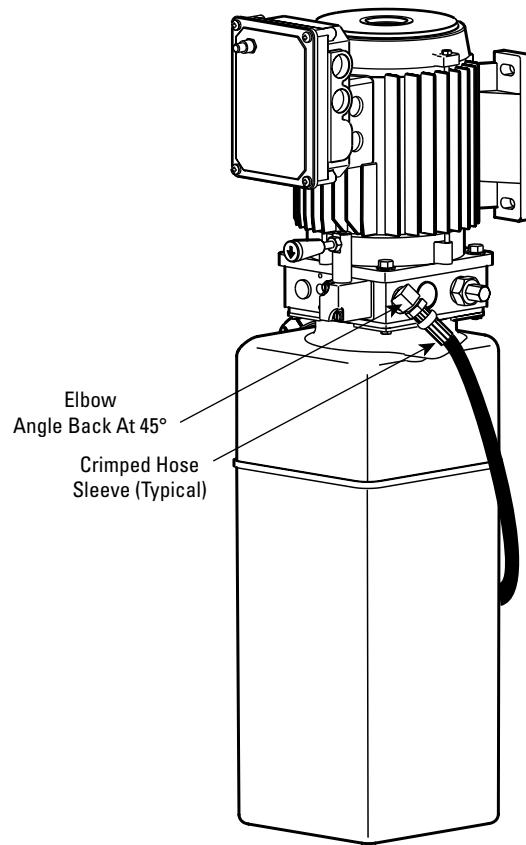

Fig. 17
- Install and hand tighten elbow to pump until O-ring is seated and elbow should be oriented downward at approximately 45°, Fig. 17. Tighten locknut to 35-40 ft-lbs. (47-54 Nm). Install enclosed Capacity label on power unit, Fig. 18.